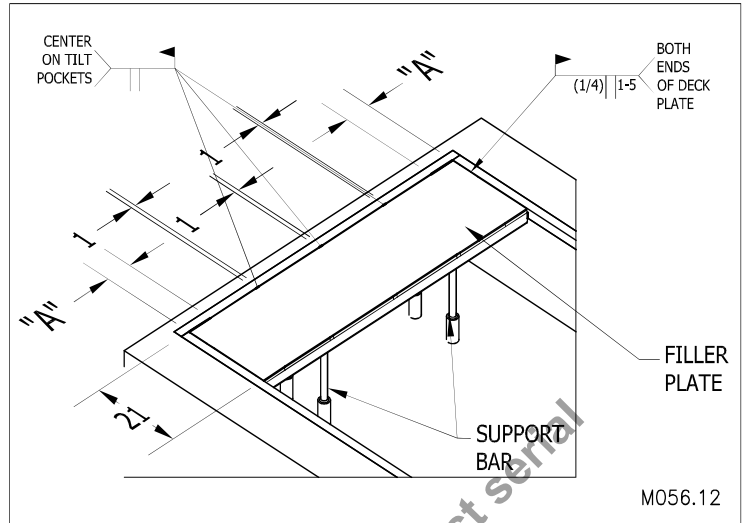

Figure 30: Installing the filler plate
11. ___ Place the filler plate on top of the rectangular tubes as indicated in "Figure 30: Installing the filler plate" on page 28 making sure the filler plate sits flat and square to the rear and side curb angles.
12. ___ Weld 1 inch butt weld at the mark off locations on the deck plate as indicated in "Figure 30: Installing the filler plate" on page 28.